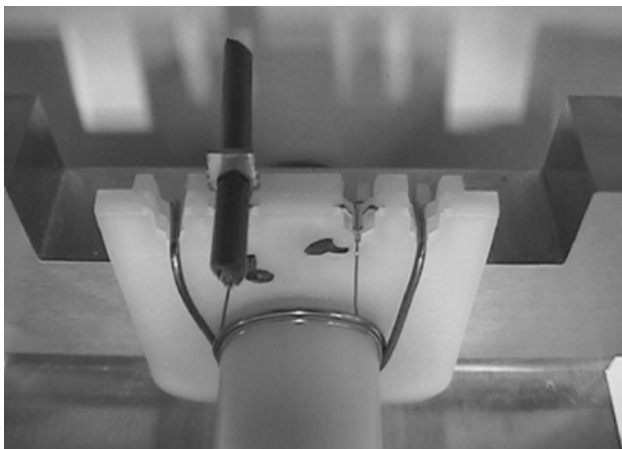

Figure 7
6. Place a lead wire in position with the Lead Lok terminal started into the appropriate cavity location, as illustrated in Figure 7.
5. Place a lead wire in position with the Lead Lok terminal started into the appropriate cavity location. See Figure 7.